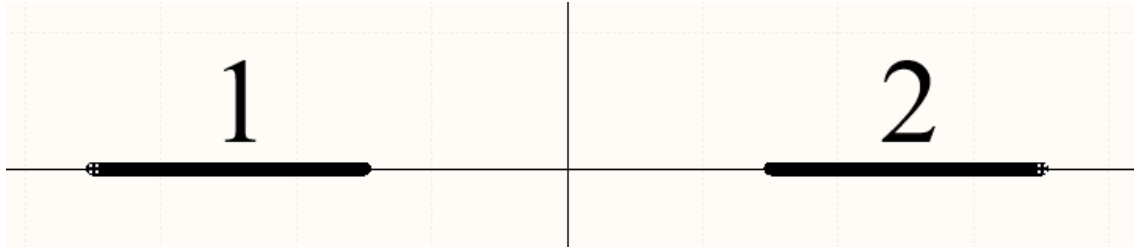

Figure 17. Position pin 2 to the right of pin 1
21. Using Figure 17 as reference:
- c) For Pin 2, ensure that the electrical hotspot is on the right side of the pin. Then, position it to the right of the origin at the coordinate X= (350mil) Y=(0mil) as shown in Figure 17.